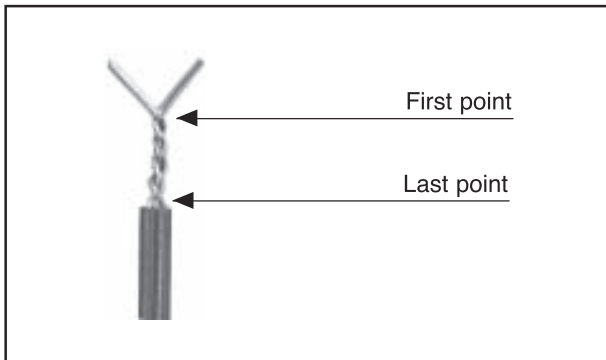

Fig. 1
- a) Welding of the two thermocouple cables must be performed very carefully, as the result obtained through measuring will refer to the last point of contact between the cables, as shown in figure 1. This point must be in contact with the surface on which we wish to measure the temperature, if not, the environmental temperature will interfere with.